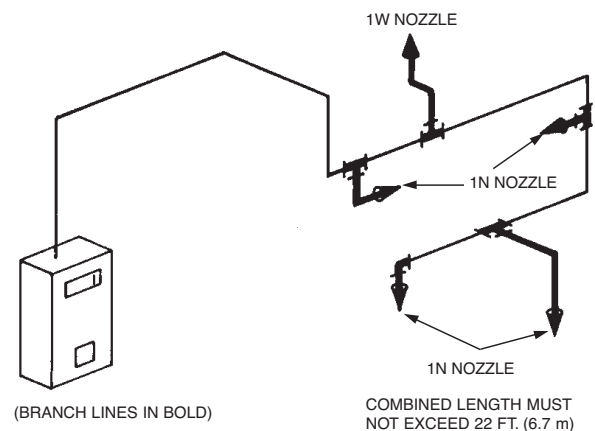

FIGURE 112
5. The combined length of all branch lines must not exceed 22 ft (6.7 m). See Figure 112.